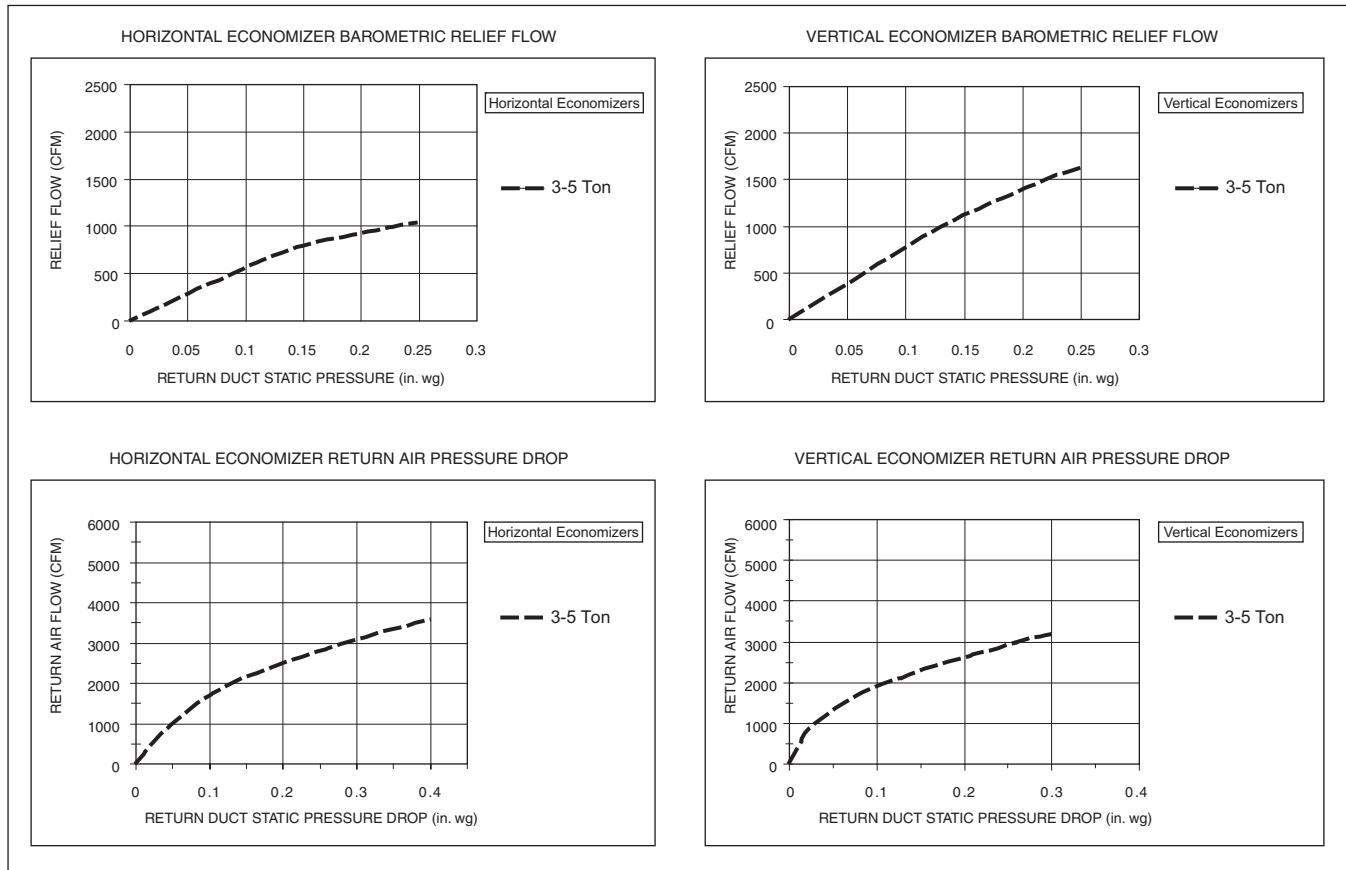

Fig. 60 — Outdoor-Air Damper Leakage
The standard controller is shipped from the factory configured for outdoor dry bulb changeover control. For this control mode, the outdoor temperature is compared to a selectable set point on the OAT sensor. If the outdoor air temperature is above the set point, the EconoMi\$er IV will adjust the outdoor air dampers to minimum position. If the outdoor air temperature is below the set point, the position of the outdoor air dampers will be controlled to provide free cooling using outdoor air. When in this mode, the Free Cool LED next to the outdoor enthalpy set point (ABCD) potentiometer will be on. The changeover temperature set point is controlled by the DIP switches on the sensor. See Fig. 59 for the switch positions corresponding to the temperature changeover values. The ABCD potentiometer on the controller should be turned fully clockwise (CW) to the "D" position. See Fig. 60 for damper leakage.